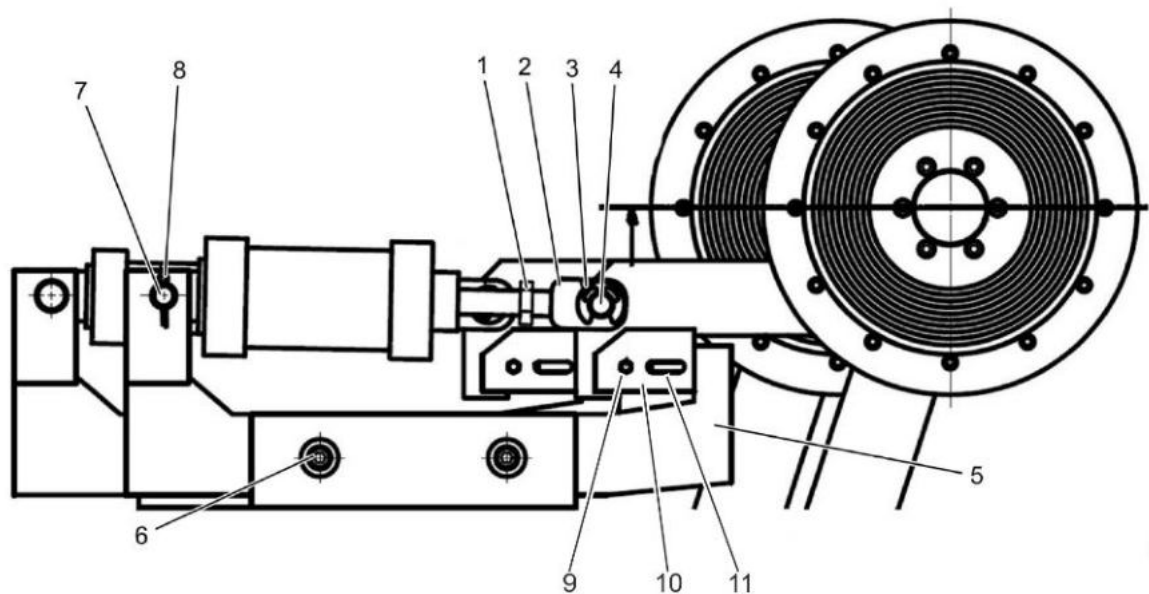

Fig. 101: Spring element
2. Limit the stroke (Fig. 102/2) with the screw (Fig. 102/4) until the gap in the checking tap (Fig. 101/11) is 3-5mm (0.12 - 0.2 inch).
4. Remove locking clip (Fig. 101/3).
5. Remove the head bolt (Fig. 101/4).
6. Remove circlip (Fig. 101/8).
7. Remove bolt (Fig. 101/7).
11. Insert bolt (Fig. 101/7).
12. Reattach circlip (Fig. 101/8).
13. Insert head bolt (Fig. 101/4).
14. Reattach locking clip (Fig. 101/3).
2. Loosen lock nut (Fig. 101/1).
3. Unscrew rod clevis (Fig. 101/2).
5. Re-tighten lock nut (Fig. 101/1).